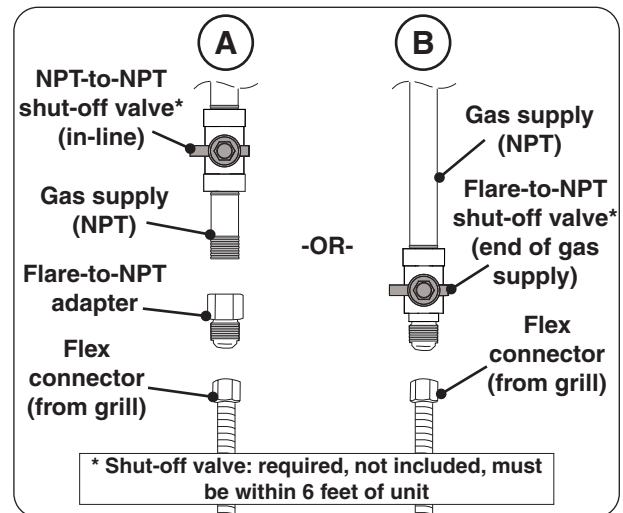

Fig. 17-2 Connecting to a gas line
- Install the supplied flare-to-NPT adapter to the gas supply (NPT) using a pipe joint compound resistant to all gasses (see Fig. 17-2, A). Tighten securely.
- Connect the flex connector to the adapter (see Fig. 17-2, A). Tighten securely.
- Connect the flex connector to the shut-off valve (flare) (see Fig. 17-2, B). Tighten securely.